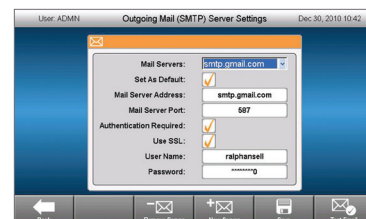

Fig. 11. Outgoing Mail (SMTP) Server Settings window.
3. Select a mail server from the dropdown menu in the Outgoing Mail (SMTP) Server Settings window or create a new one by touching the **New Server** button (Figure 11). Make this server the default by touching the **Set As Default** box.